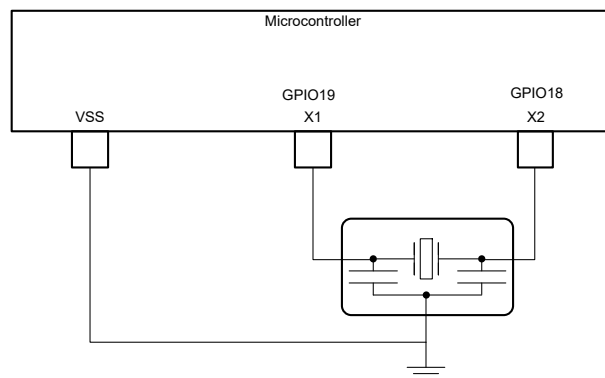

Figure 6-13. External Resonator
- An external resonator. The resonator should be connected across X1 and X2 with its ground connected to VSS as shown in Figure 6-13.